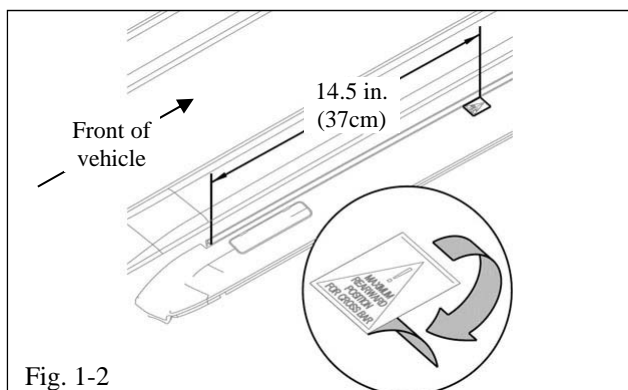

Fig. 1-2
-  (f) Use a ruler to measure 14.5 in. (37cm) forward from the rear of the side rail bracket (Fig. 1-2).
- (h) Position the label so that the triangle is pointing to the **front** of the vehicle and the line on the label is at the 14.5 in. (37cm) measurement (Fig. 1-2).